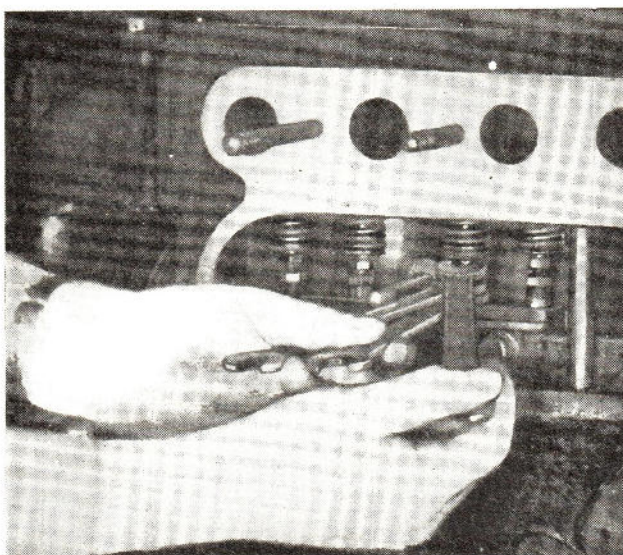

Fig. 19. Adjusting tappet clearance.
- Three spanners may be used as shown in Fig. 19 or alternatively the lower spanner may be dispensed with, and a piece of plate of a suitable width engaged with the flats on the pair of tappets, thus preventing their rotation.